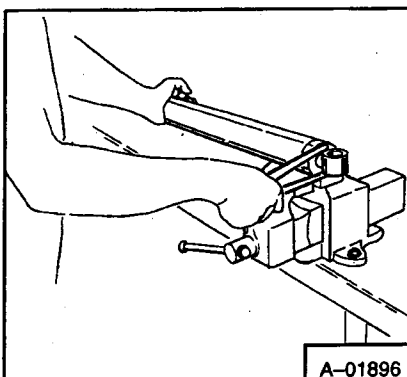

Fig. 4-43 Remove Cylinder Head
2. With spanner wrench, remove head from cylinder (Fig. 4-43).
7. Tighten cylinder head with spanner wrench (Fig. 4-43).